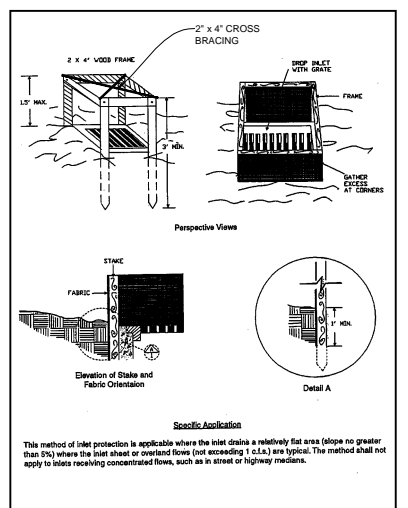

Figure 4.5b. Filter Fabric Drop Inlet Sediment Filter
- A trench shall be excavated approximately 4 inches (10 cm) wide and 4 inches (10 cm) deep around the outside perimeter of the stakes (see Figure 4.5b).